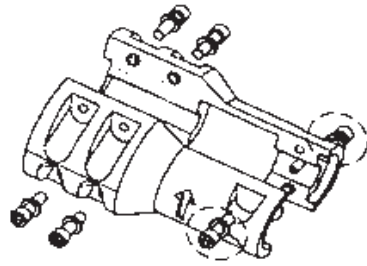

Figure 4: Coupling Socket Head Screws
7. Very lightly tighten the (2) socket head cap screws on the pump end of the coupling (refer to Figure 4). Tighten the coupling evenly; ensure that the coupling is symmetrical on both the pump and motor shafts. Do NOT torque the cap screws in this step.